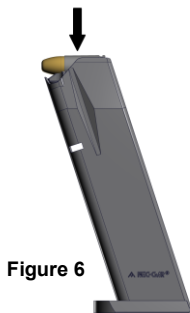

Figure 6
2. Press the round down and slide it under the magazine lips, and push the round all the way to the rear of the magazine (Figure 6).